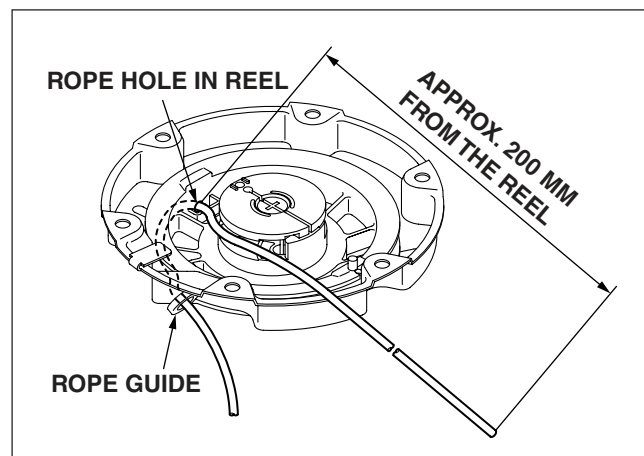

Fig. 13-7
(4) Tension the reel spring
- 2 Fix the reel so that the rope hole in the reel is aligned with the rope guide. (Fig. 13-7)
- 1 Pass the rope end through the rope guide and the rope hole of the reel and pull through approximately 20 cm out of the reel. (Fig. 13-7)